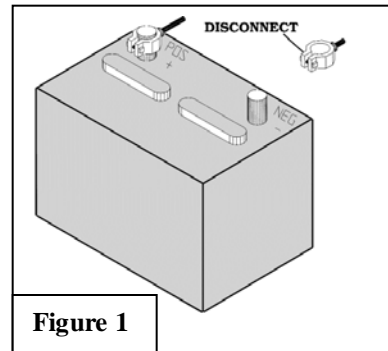

Figure 1
1.  It is advisable to disconnect the negative battery cable for 3 minutes before beginning installation, to avoid unintended air bag deployment. Note and record any anti-theft radio codes prior to disconnecting. **Figure 1**